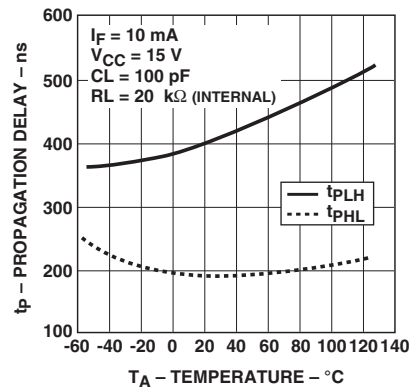

Figure 8. Propagation delay with internal $20 \text{ k}\Omega$ R_L vs. temperature
- Due to the tolerance of the internal resistor, and since propagation delay is dependent on the load resistor value, performance can be improved by using an external 20 kΩ 1% load resistor. For more information on how propagation delay varies with load resistance, see Figure 8.